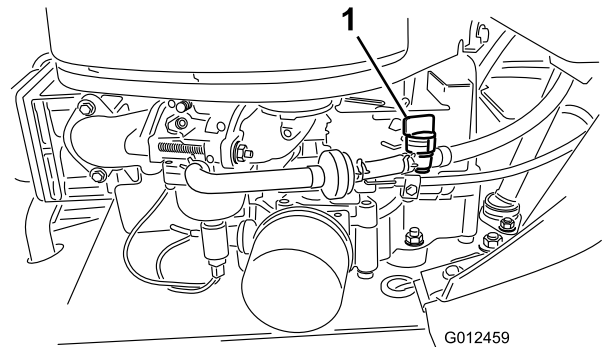

Figure 29
6. Close the fuel-shutoff valve (Figure 29).
7. Squeeze the ends of the hose clamps together and slide them away from the old fuel filter (Figure 29).